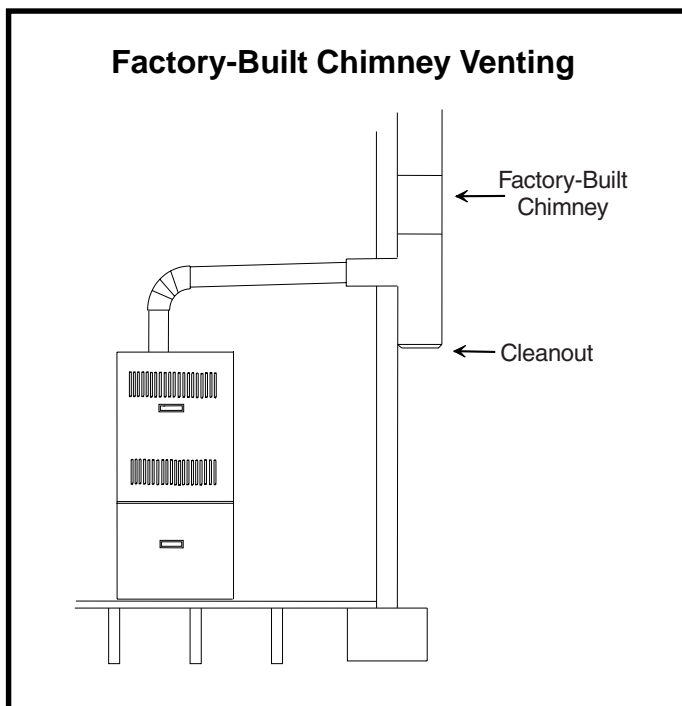

Figure 8
6. The furnace shall be connected to a factory-built chimney or vent complying with a recognized standard, or a masonry or concrete chimney lined with a lining material acceptable to the authority with jurisdiction. **Venting into an unlined chimney or a single wall metal vent is prohibited in all cases. A lined chimney may be used if a draft hood equipped appliance, such as a water heater, is connected to the same flue (see Figures 8 and 9).**
12. Where local experience indicates that condensate may be a problem, the vent shall be constructed to prevent condensation from entering the combustion blower. Provision shall be made to drain off the condensate (see Figures 8 and 9).
14. All vent pipe run through unconditioned areas or outside shall be constructed of factory-built chimney sections (see Figure 8).